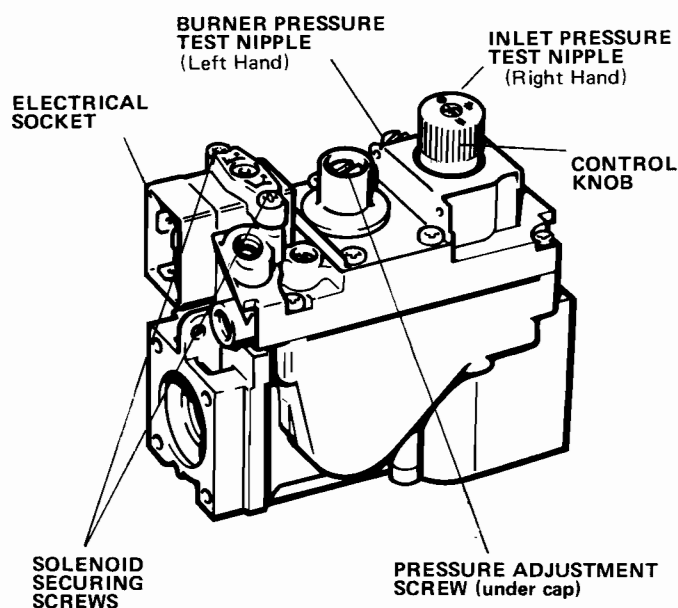

FIG. 12
1. Fit a pressure gauge to the pressure test nipple. See Fig.12.
- Remove sealing screw and fit a pressure gauge to the pressure test nipple in the gas valve (See Fig.12).